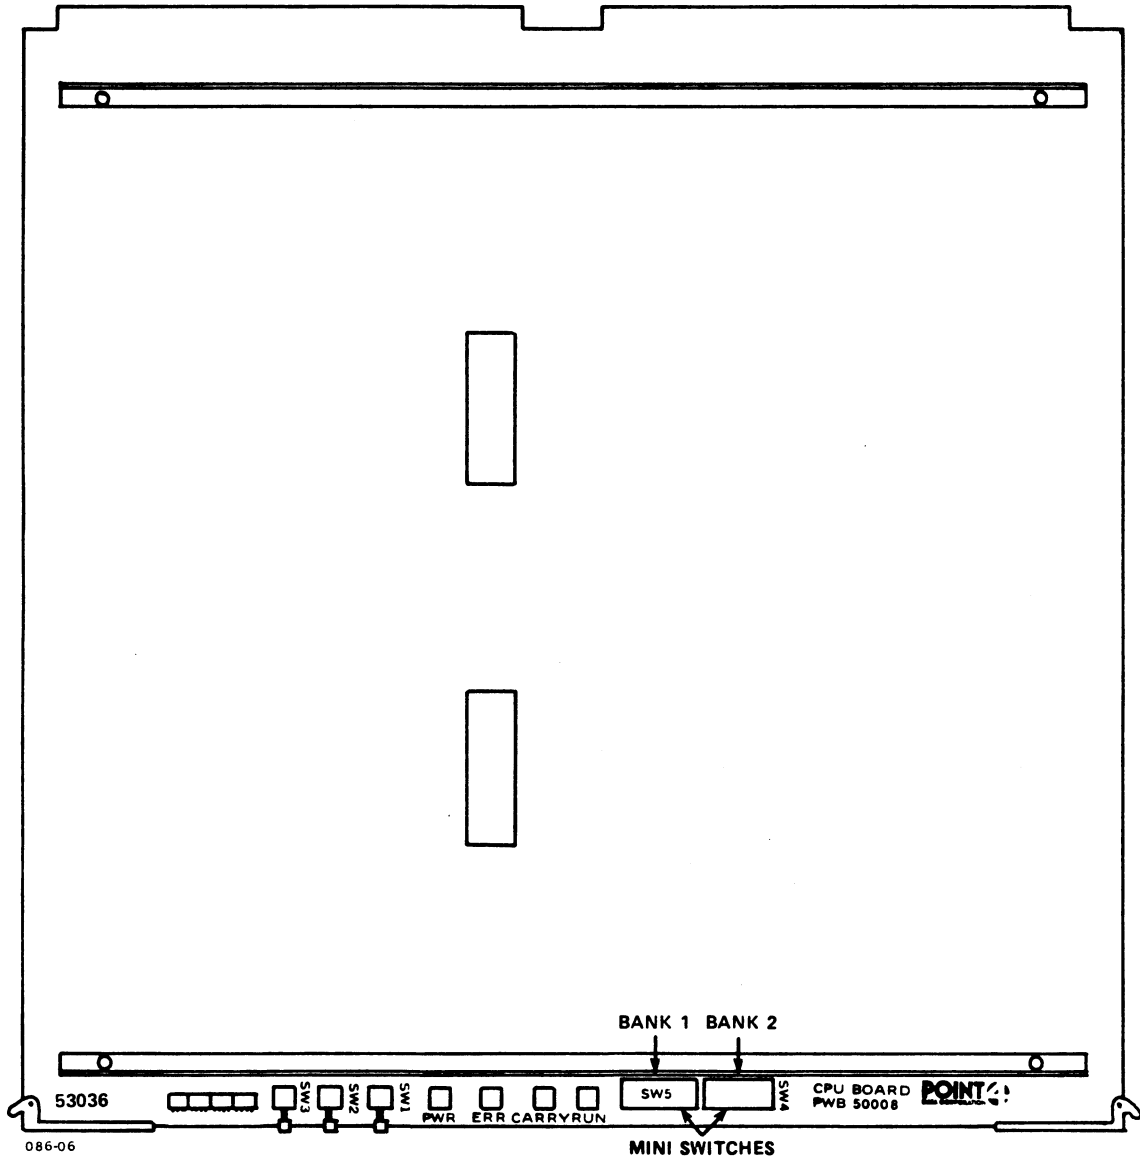

Figure 6-6. Central Processing Unit (CPU)
Install the CPU board as follows (see Figure 6-6):
3. Attach the ribbon cable originating on the connector panel, located on the rear rail, to the 50-pin connector on the front edge of the 310 multiplexer board (see Figure 6-6).